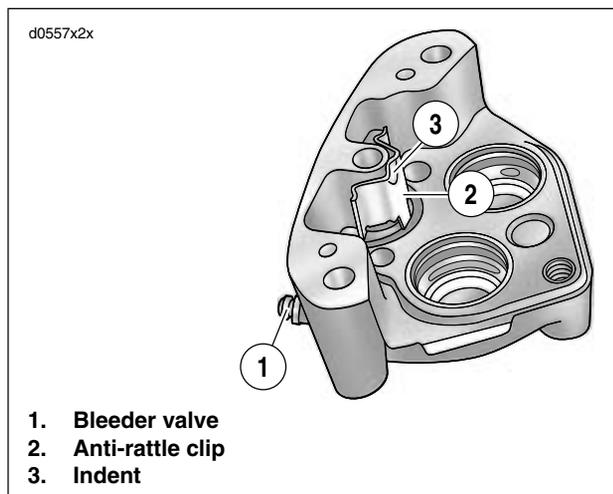

Figure 2-47. Front Caliper Anti-rattle Clip
- a. See Figure 2-47. Install bleeder valve (1) on outside caliper housing if removed. Tighten bleeder valve to 9-11 Nm (80-100 **in-lbs**).
- b. Place outside caliper housing on workbench with decal side down. Install anti-rattle clip (2) in channel with indent (3) facing upwards.
- Anti-rattle clip orientation matches Figure 2-47.